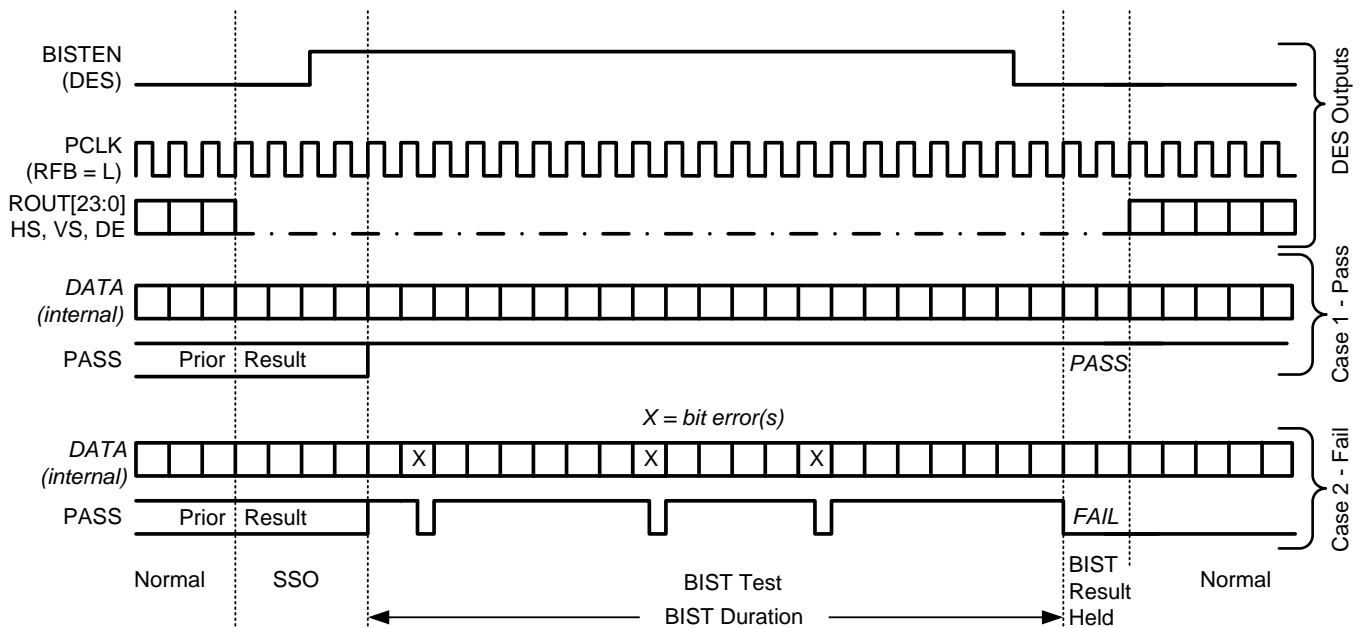

Figure 16. BIST Waveforms
4. The Link returns to normal operation after the deserializer BISTEN pin is low. Figure 16 shows the waveform diagram of a typical BIST test for two cases. Case 1 is error free, and Case 2 shows one with multiple errors. In most cases it is difficult to generate errors due to the robustness of the link (differential data transmission etc.), thus they may be introduced by greatly extending the cable length, faulting the interconnect, reducing